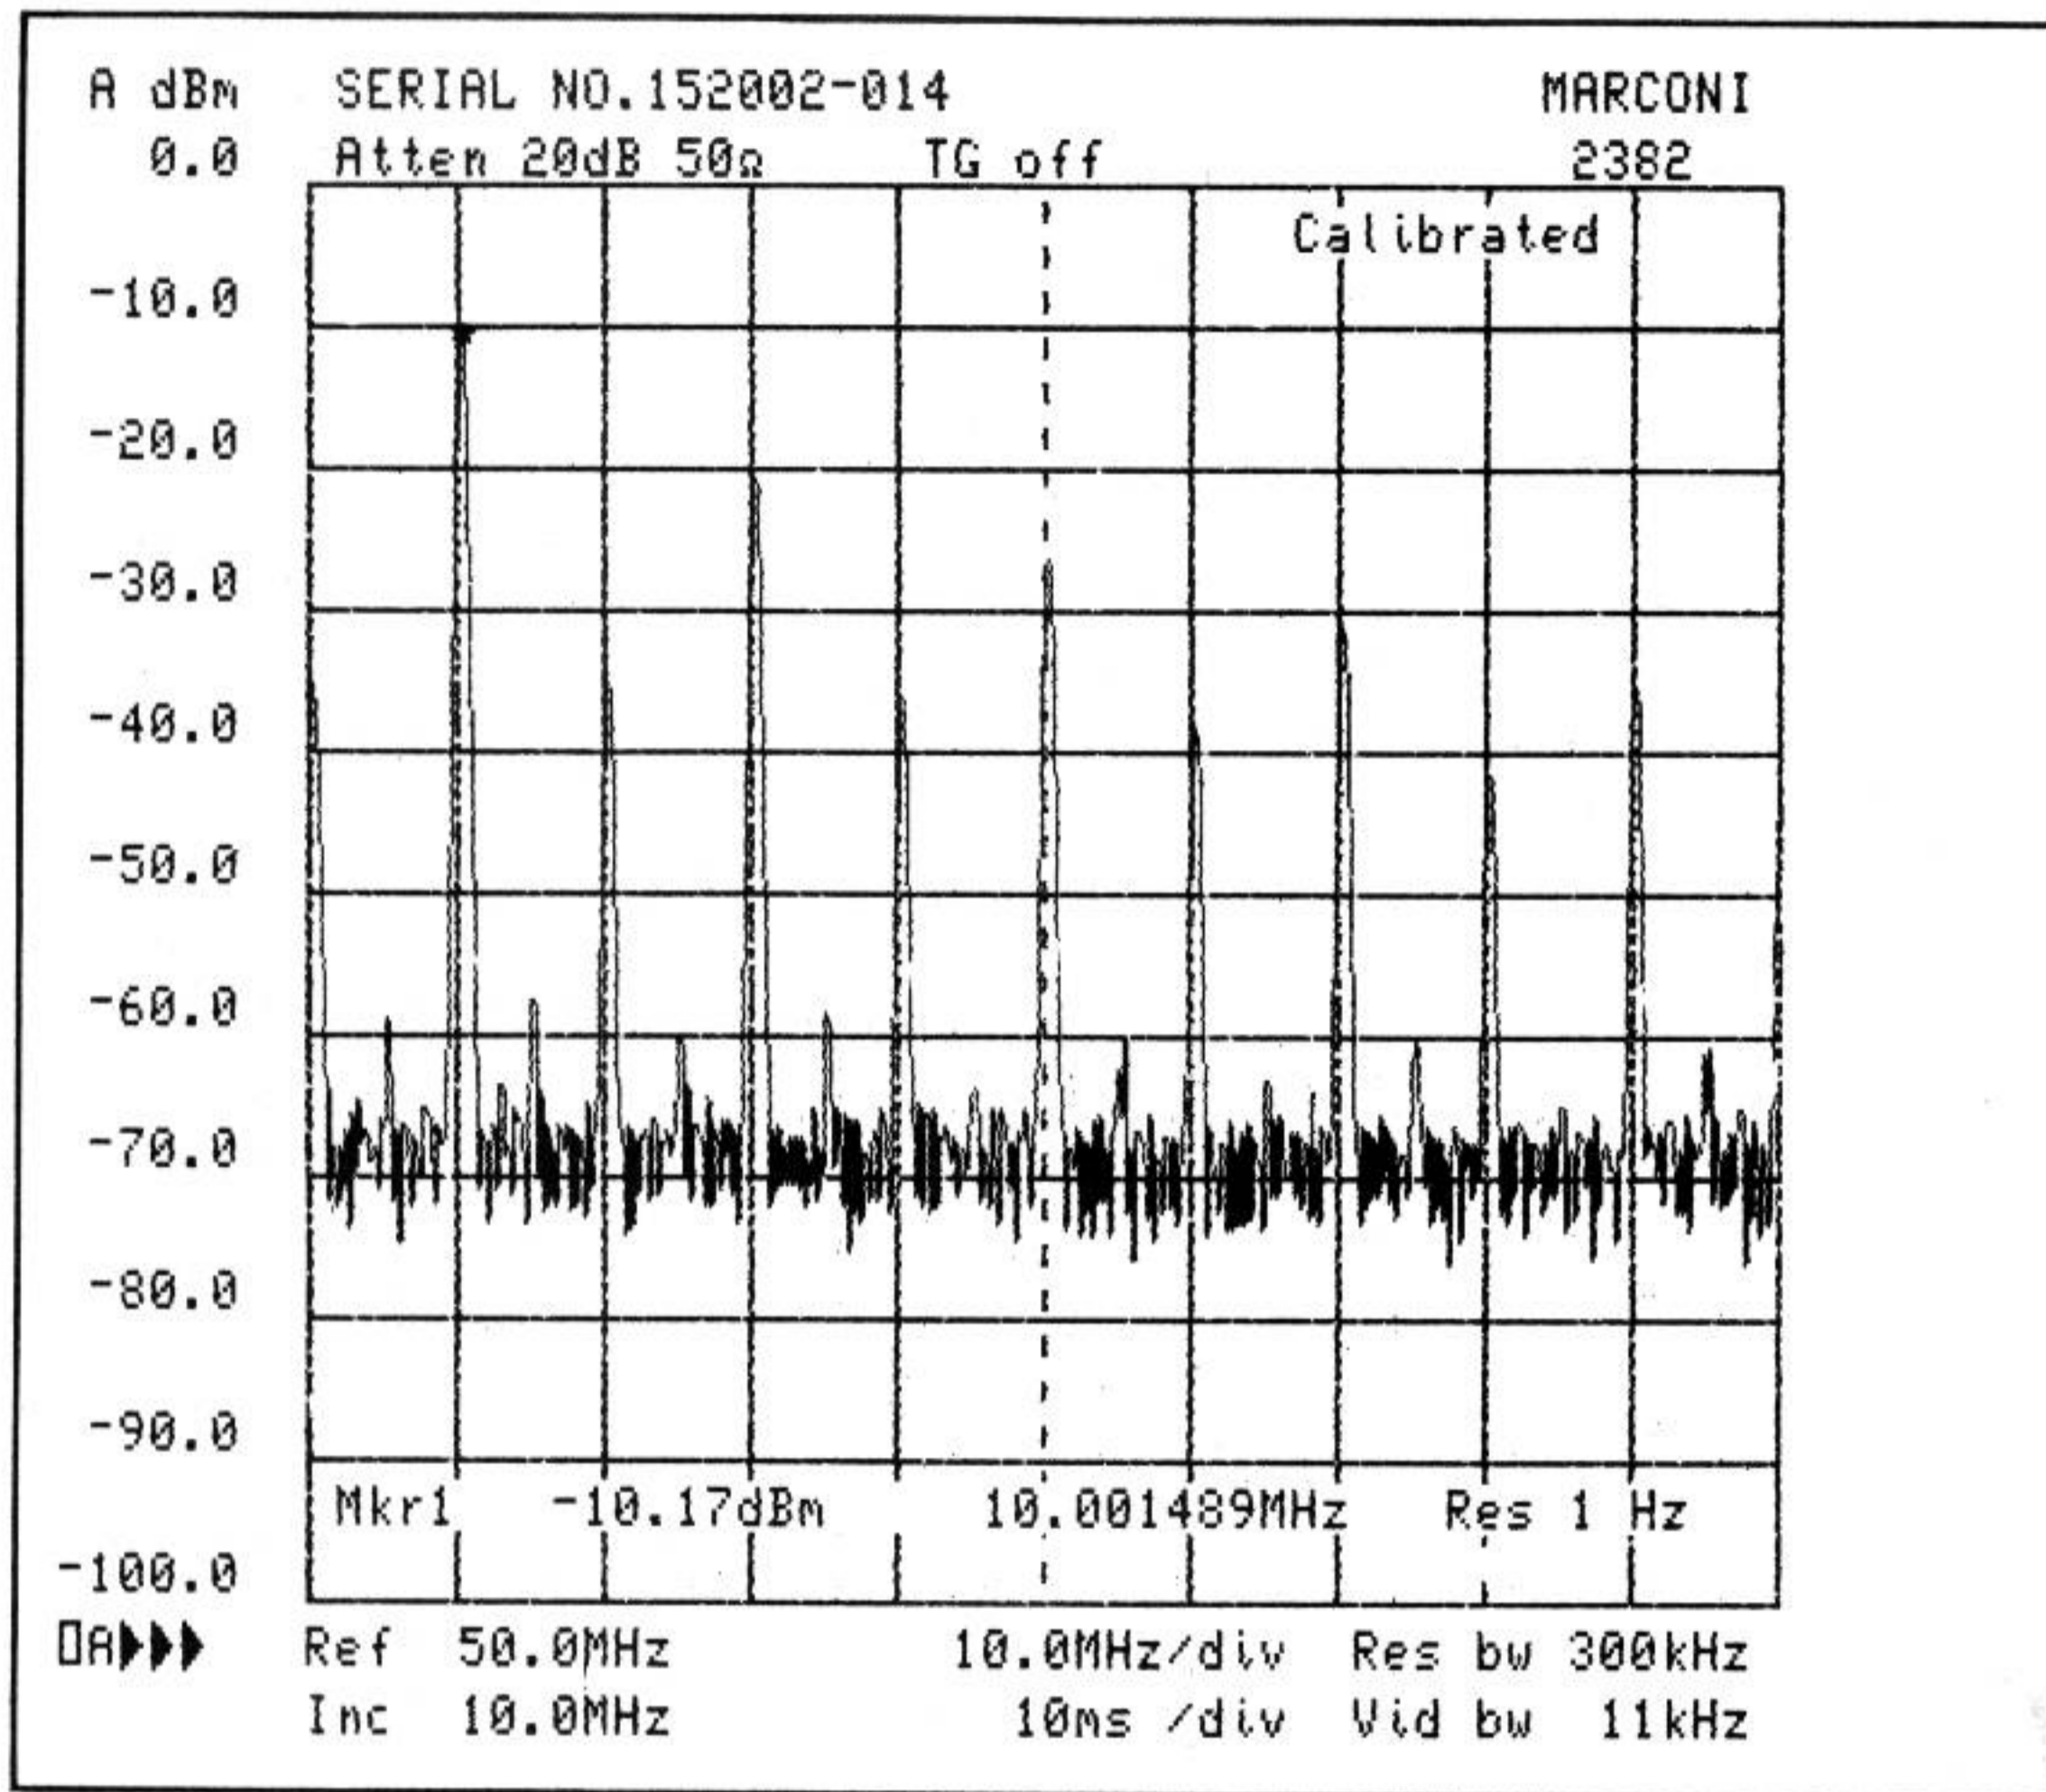

Fig. 8 Frequency measurements at 1 Hz resolution using MKR 1
41. Position the bright dot on the peak of one of the spectral lines and note the frequency recorded. To enhance the accuracy of the frequency measurement press **FREQ COUNT**. The annotation 'Freq count' appears at the bottom right hand side of the screen and the frequency is now measured to a resolution of ± 10 kHz. Press **2ND FUNCT** then **FREQ COUNT**. The frequency is now measured at ± 1 Hz resolution. Refer to Fig. 8. Press the **FREQ COUNT** key again to cancel the mode.